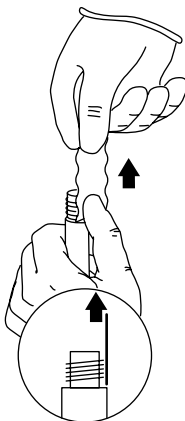
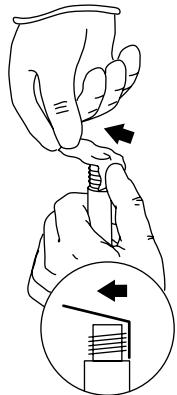

Fig. 5
Fig. 6
6. With the other hand, gently stretch the membrane upward and then across the opening. See **Figure 5** and **Figure 6**.